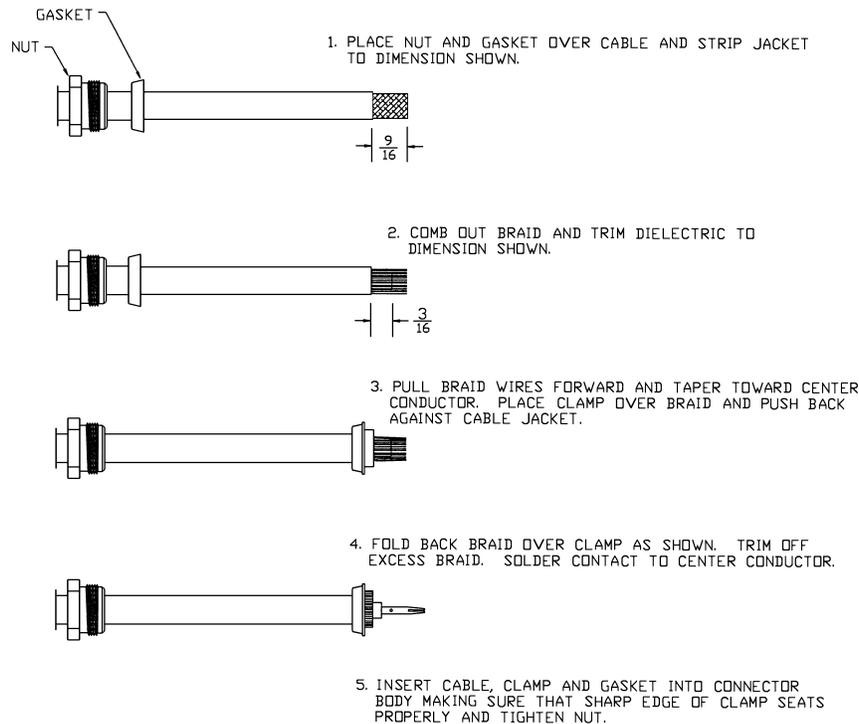

Figure 2. Coaxial Cable Installation
2. Trim the coaxial cable to the desired length and install the TNC connector per the cabling instructions on Figure 2. If the connector is provided by the installer, follow the connector manufacturer’s instructions for cable preparation.